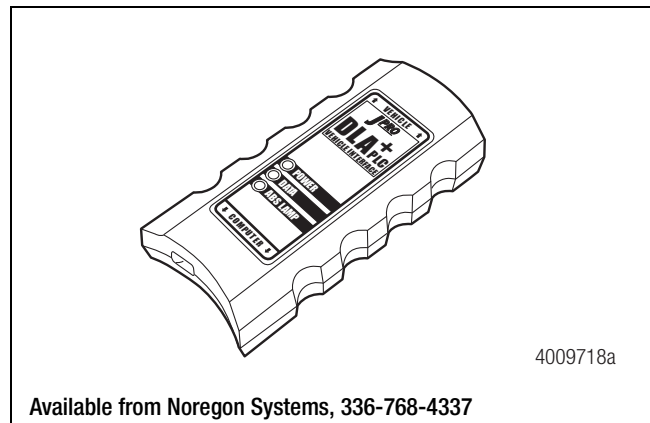

Figure 2.7
- Use as a trailer/tractor tester to ensure that PLC is functioning correctly. Figure 2.7.